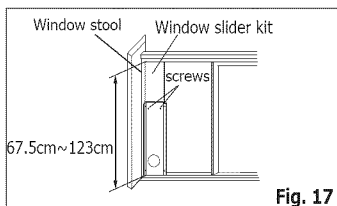

Fig. 17
2. Open the window sash and place the window slider kit on the window stool. See Fig.17. Attach the window slider kit to the window stool. Adjust the length of the window slider kit according to the height of window. Screw down the two screws on the window slider kit. See Fig.17. Cut the adjustable window slider kit if the height of window is less than 67.5cm (Fig. 12).